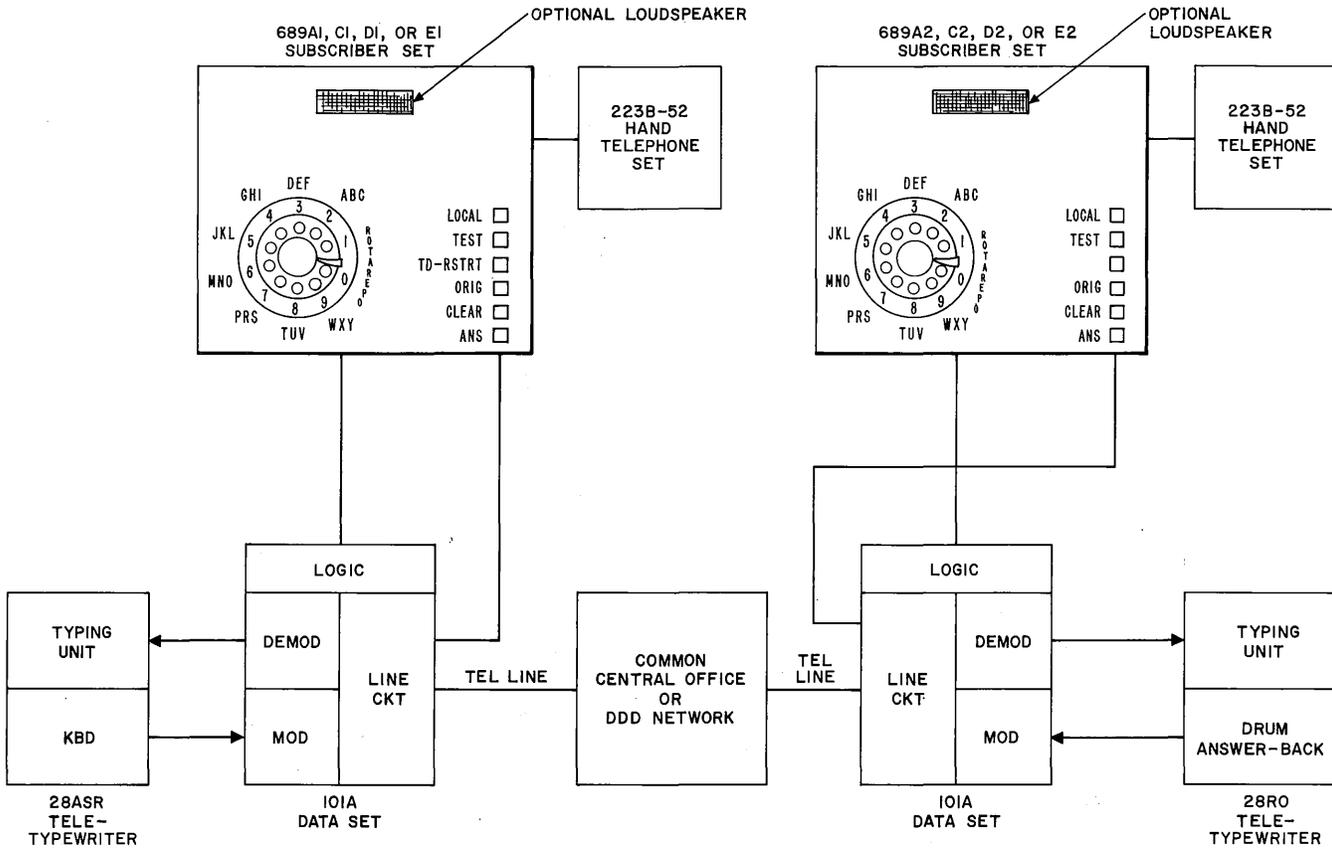
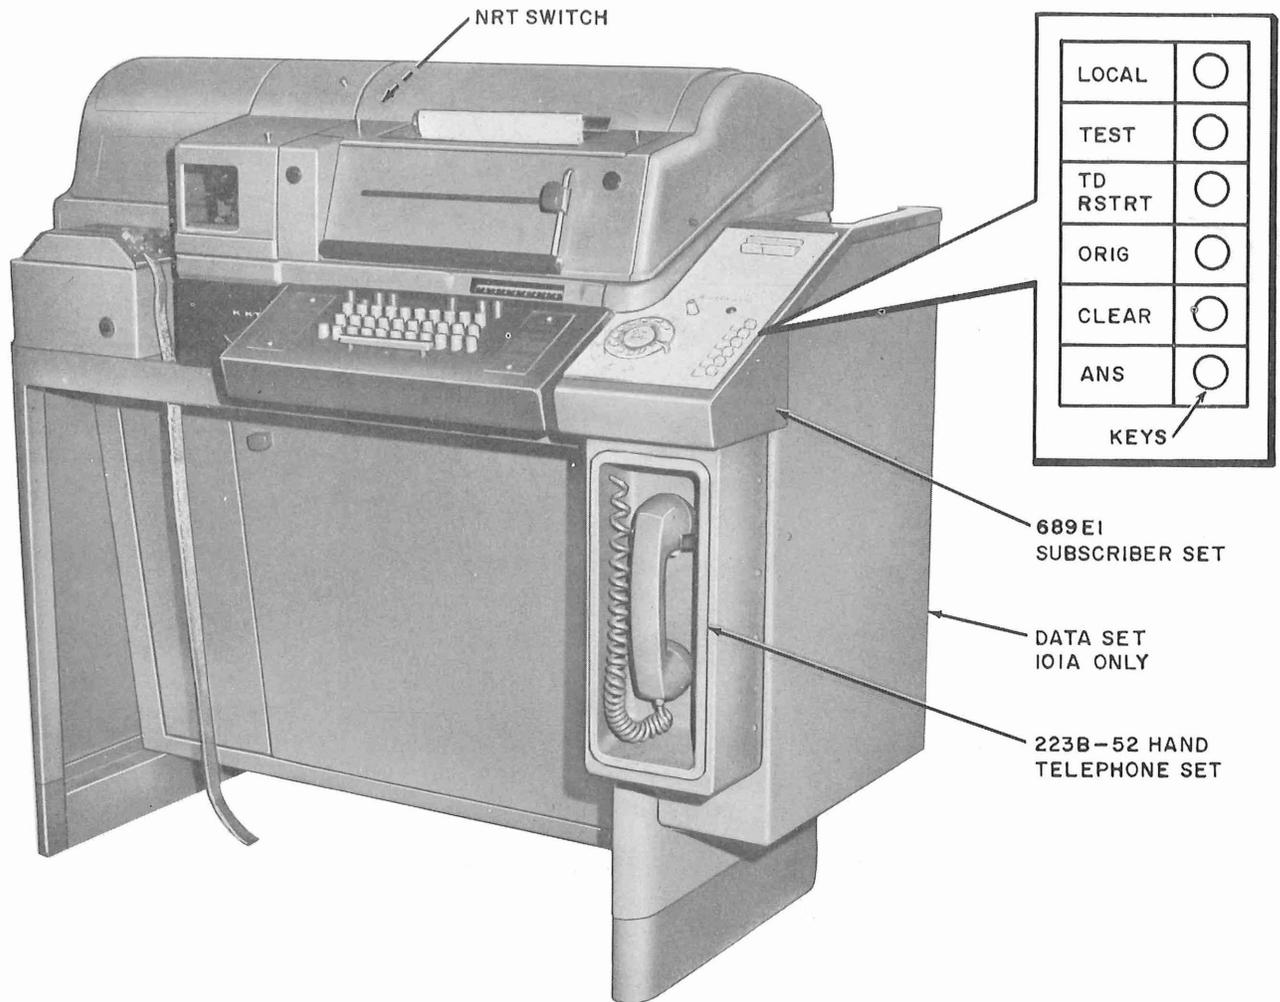

Fig. 4—Block Diagram Typical Station Arrangement for DATA-PHONE Service
Fig. 5—Data Set 101A, Subscriber Set 689E1 and Hand Telephone Set 223B-52 Mounted on 28 ASR TTY
2.12 Fig. 4 shows typical station arrangement for DATA-PHONE service. The TTYs used for DATA-PHONE service are 100-speed, 5-level, Model 28-type equipment (see Figs. 5 and 6). They are arranged for the following service:
- 28 ASR attended (Fig. 5)